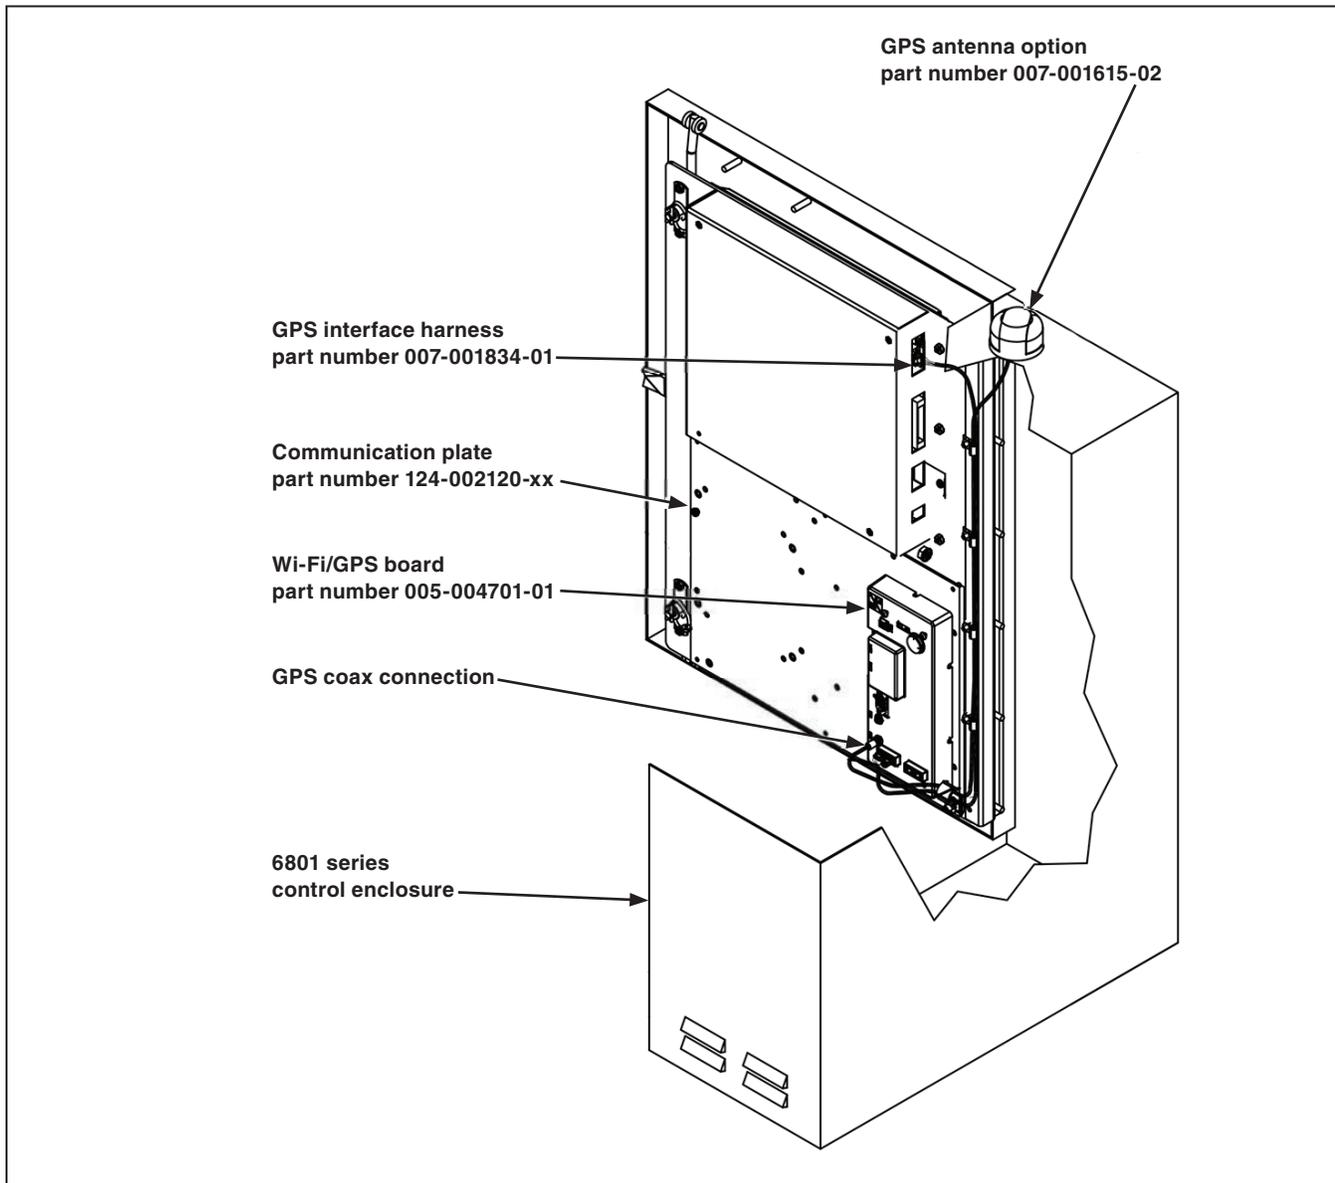

Figure 15. The communication plate, GPS antenna, and cable runs.
- STEP 13.** Connect the GPS interface harness to the GPS intermediate board at the right side of the processor board cover. See Figure 15.